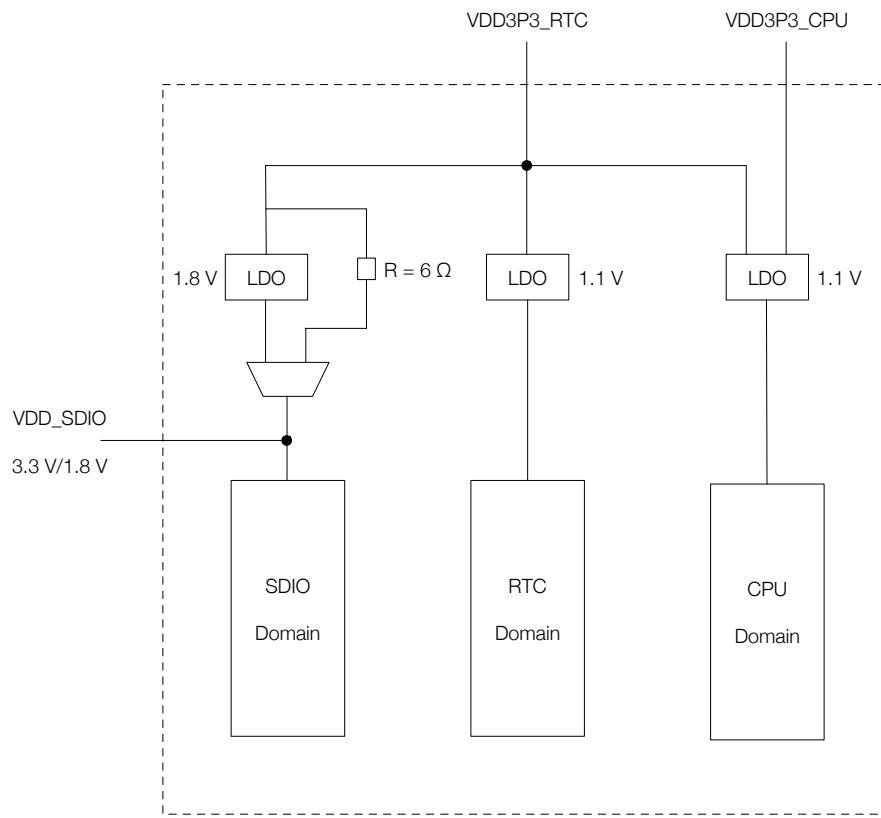

Figure 4: ESP32 Power Scheme
3. As the embedded flash/PSRAM in ESP32-U4WDH/ESP32-D0WDR2-V3 operates at 3.3 V, VDD_SDIO must be powered by VDD3P3_RTC via a $6\ \Omega$ resistor. See Figure 4.